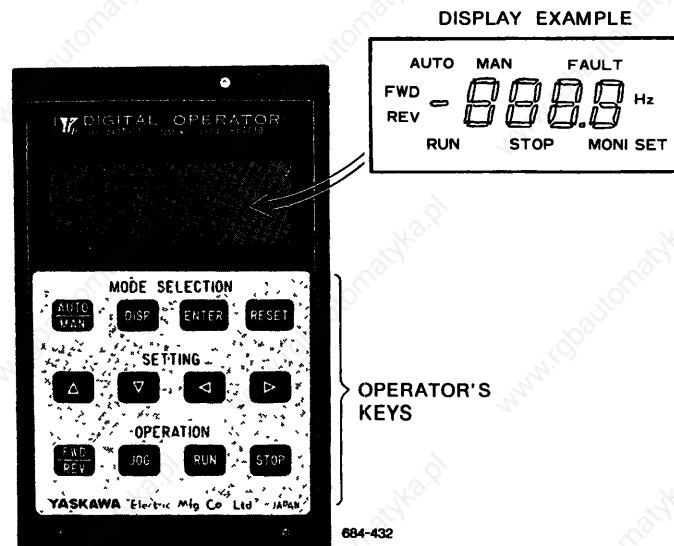

Fig 17 Digital Operator (Optional)
5.3.2 Use of Digital Operator Model JVOP-71 (Optional) (Fig. 17)